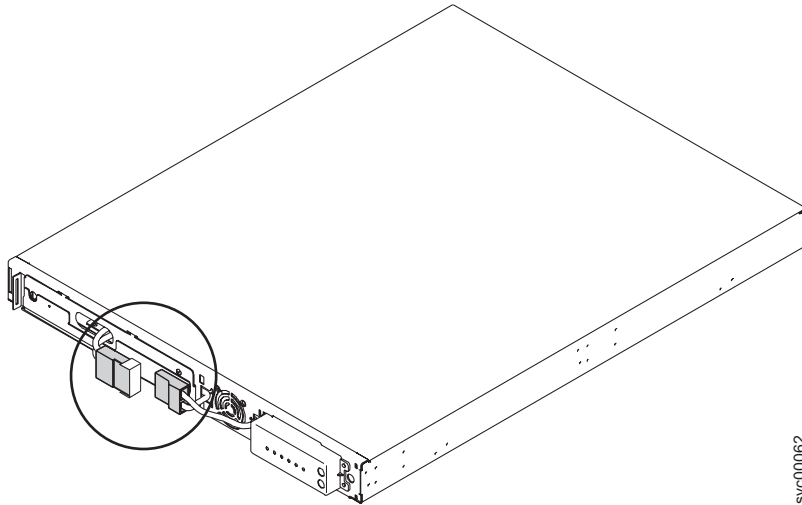

Figure 139. The 2145 UPS-1U internal battery connector with protective tape
7. After pulling the two connectors apart, cover the exposed battery connector with adhesive tape. See Figure 139 on page 358.